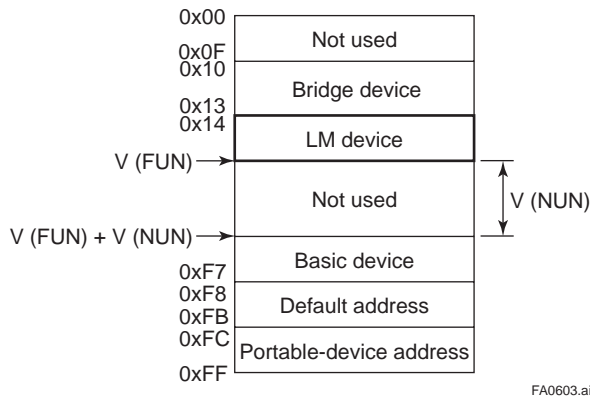

Figure A5-3. Node Address Ranges
(3) In the LAS settings of the AV550G, set the values of V(FUN) and V(NUN) so that they include the node addresses of all nodes within the same segment. (See also Figure A5-3.)